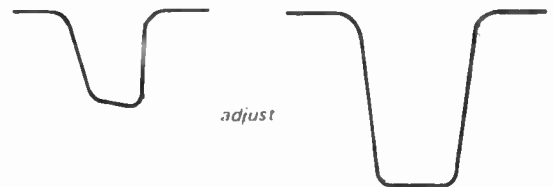

Fig. 3-14. A m i-f response
5. Turn the top core of H 1401 (see Fig. 3-11) to obtain a maximum and symmetrical response as shown in Fig. 3-14.